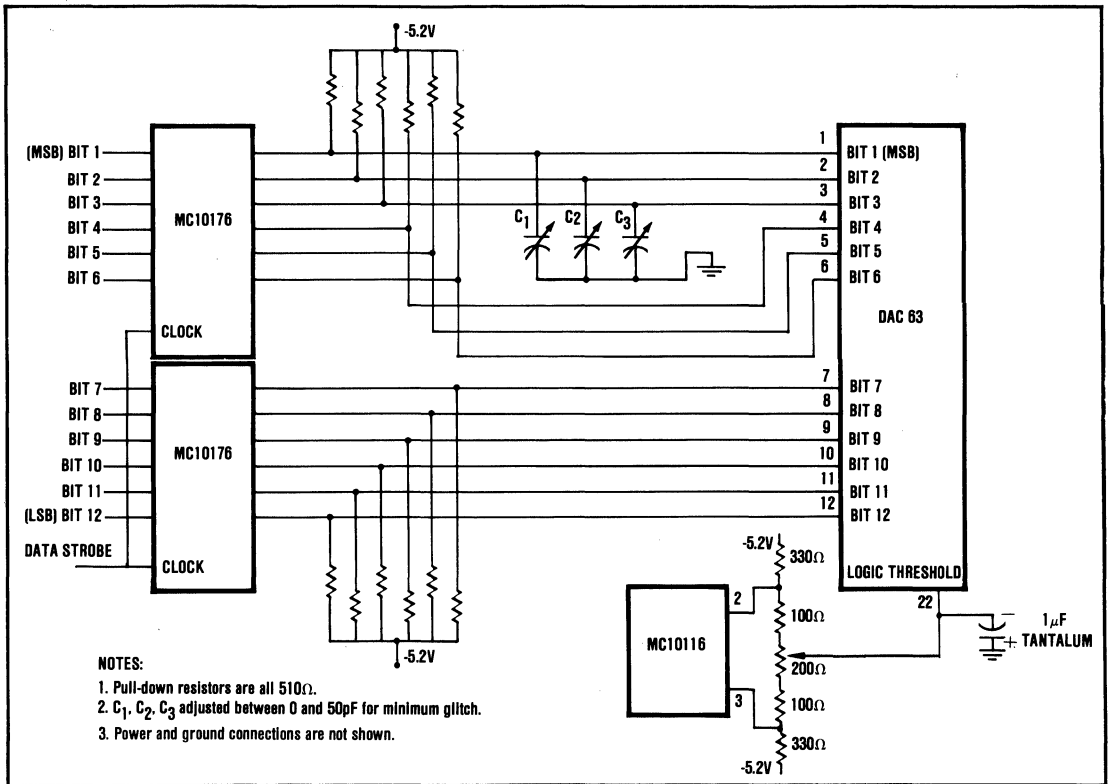

FIGURE 9. Glitch Adjustment.
5. Bring the source of the digital driving signal as close to the inputs of the DAC63 as possible. If the digital inputs are not clean it will be necessary to reshape them using registers or line drivers. Figure 9 shows how to interface the DAC63 to an input register. It is recommended that the logic power line be bypassed near the digital logic circuitry as a further measure to achieve clean signals.
The DAC63 design has been optimized for low glitch energy. However, a further reduction in the output glitch can be achieved by adjusting the skew of the higher order bits of the driving circuitry and by adjusting the logic threshold. This can be done by connecting a variable capacitor from the data lines to ground on each of the first three significant bits (more than three lines may be adjusted if desired). Refer to Figure 9. It will be necessary to create a driving digital code pattern that causes a major carry transition around these bits. It is convenient to use a digital ramp from a counter for this purpose. Initially set the logic threshold exactly half-way between logic 1 and a logic 0. This will be about -1.3V. Then examine the major carry transition associated with bit 3 and adjust the capacitor for minimum glitch. Make the same adjustment to bit 2 and then to bit 1. If done in this order, interactions will be minimized. Finally, fine tune the response by adjusting the logic threshold voltage (pin 22) for minimum glitch. It may be necessary to repeat this procedure once or twice for complete optimization.